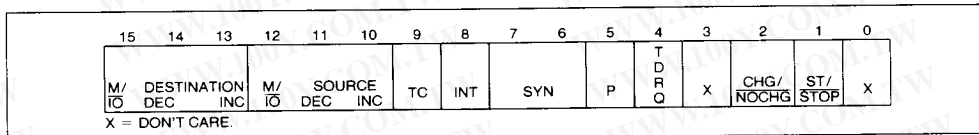

Figure 17. DMA Control Register
(TC) specifies the number of DMA transfers to be performed. Up to 64 Kbyte transfers can be performed with automatic termination. The Control Word defines the channel's operation (see Figure 17). All registers may be modified or altered during any DMA activity. Any changes made to these registers will be reflected immediately in DMA operation.